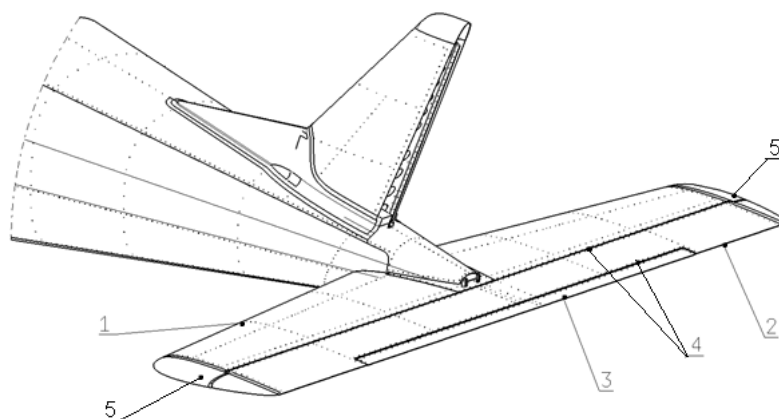
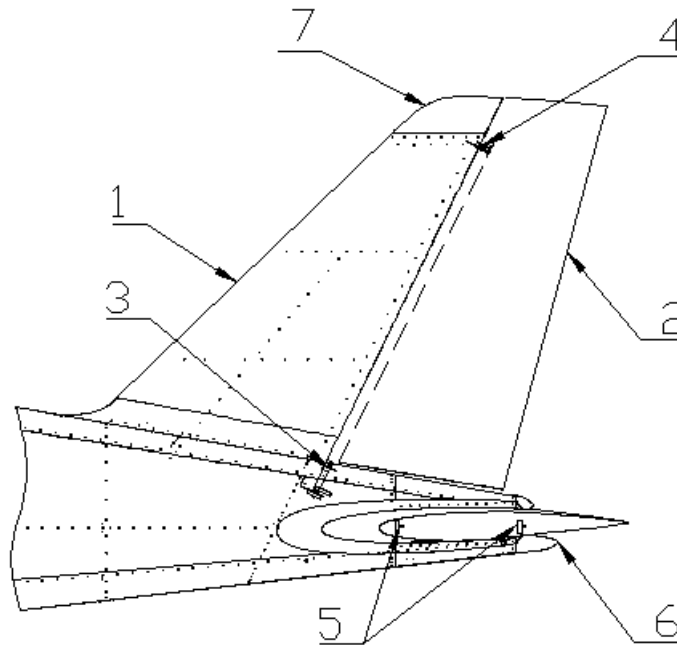

Fig. 5-1
Fig. 5-2
Horizontal stabilizer (1) (see Fig. 5-1) is of the all-metal structure consisting from two aluminum spars, eight ribs and aluminum skins. The elevator is attached to the rear spar by means of piano hinge (4). The horizontal stabilizer is mounted on the fuselage by means of front and rear attachments (5) (see Fig. 5-1). The front attachments consist of two pins, which are riveted on bulkhead No. 13 and bushings riveted on front stabilizer spar. The rear attachments consist of four hinges bolted on top and bottom part of bulkhead No. 14 and riveted on rear stabilizer spar.
Elevator (2) (see Fig. 5-1) is all-metal structure and consists from aluminum skin and ribs. Individual parts are assembled by riveting. Control lever is riveted between middle elevator ribs. Fiberglass elevator tips (5) are riveted at the both elevator ends. The elevator is equipped with the trim tab (3), which is hinged by means of the piano hinge on the rear spar close to the trailing edge of the elevator. The trim tab is made from aluminum sheet.
- (d) Remove fibreglass covers (6) (see Fig. 5-2).
- (f) Install the fibreglass covers (6) on bulkhead No.14 (see Fig. 5-2).
- (b) Disconnect the trim tab actuator wires (3).
- (c) Remove the fibreglaas cover (6) (see Fig. 5-2).
- (e) Disconnect piano hinge (4) (see Fig. 5-1).
- (c) Insert pin in piano hinge (4) (see Fig. 5-1).
- (e) Connect the trim tab actuator wires (3).
- (f) Install the fibreglass covers (6) (see Fig. 5-2).